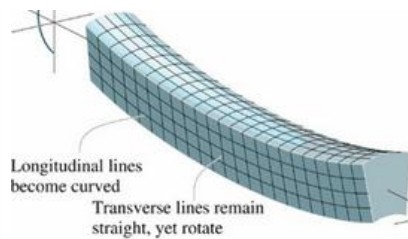

Fig.3
- When any member is acted by load which results in bending as shown in Fig.3 than due to bending the cross-section changes